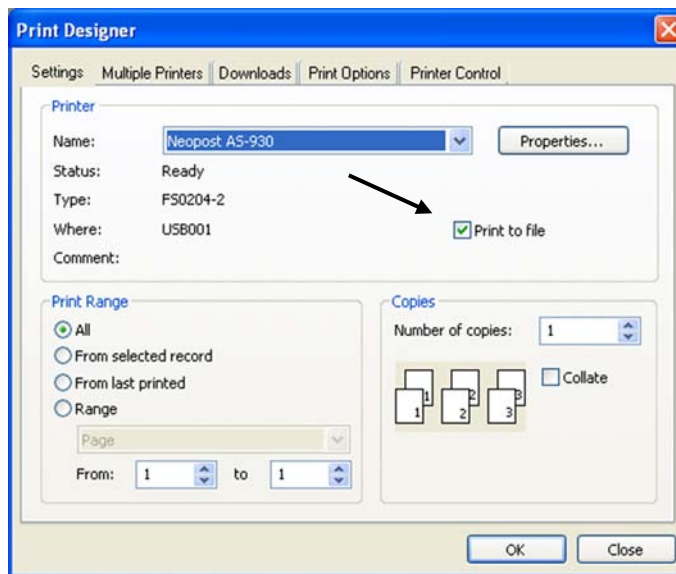

Figure 63: Print dialog window
- Activate the "Print to file" checkbox as shown in Figure 63.